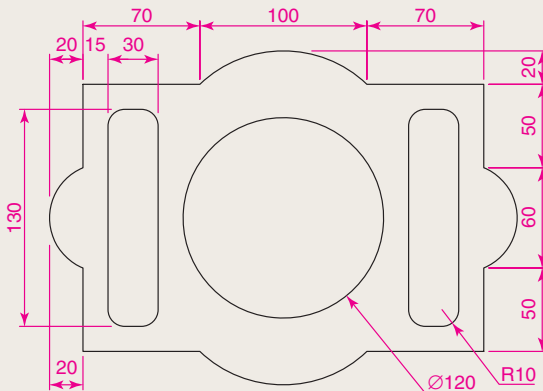

Fig. 6.29 Exercise 3
3. Construct and dimension the drawing Fig. 6.29.